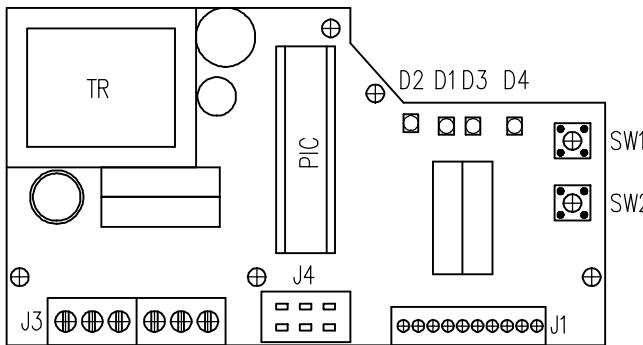

Fig. 9
4.6 Adjustment of position controller (Fig. 9)
Laying of adjusters and signalling elements on the board of the REGADA controller is shown on Fig. 9: